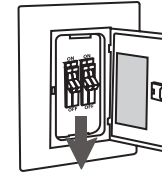

FIGURE 5
1. Disconnect power at the breaker to the fan location. A licensed electrician must install the fan. (Fig. 5)